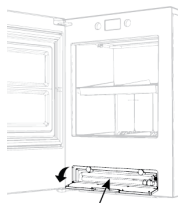

Fig. 4, drain the reservoir using the front drain tube.
2. Use the front drain tube to empty all water from ice maker. See Fig. 4 on next page.